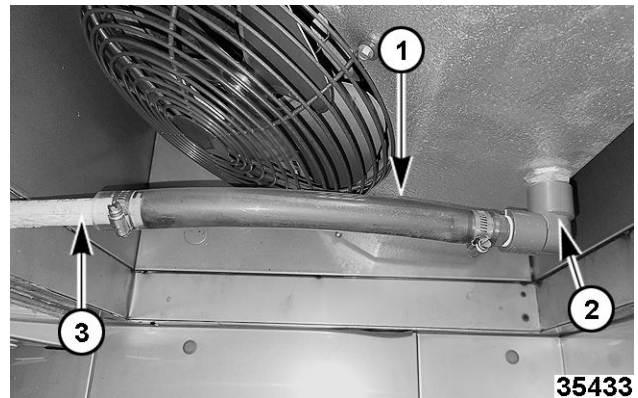
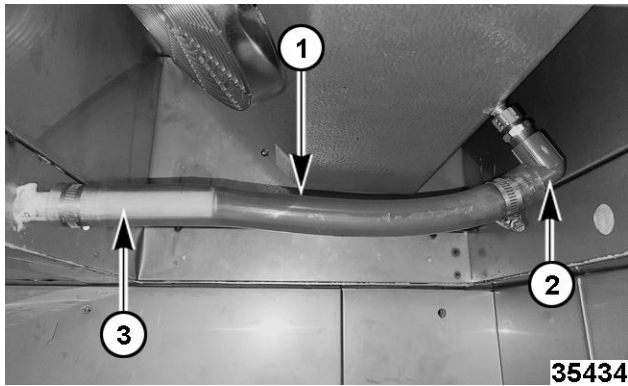

Fig. 24
Fig. 25
- Install evaporator drain tube (1, Fig. 24 & Fig. 25) to evaporator drain (2, Fig. 24 & Fig. 25) and ceiling drain (3, Fig. 24 & Fig. 25), making sure tubing runs downhill to allow proper drainage from the evaporator drain.